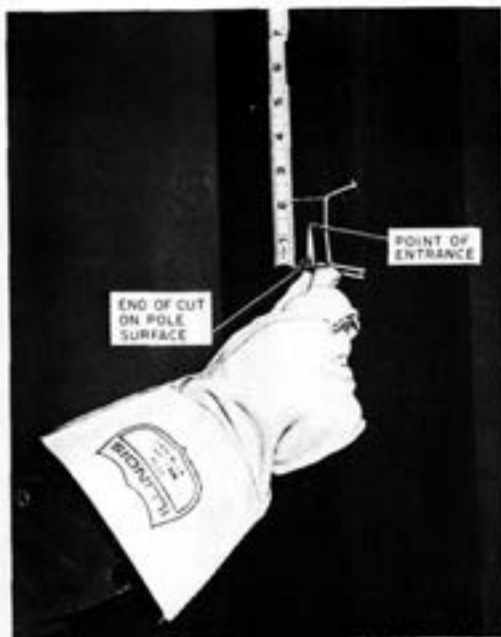

Fig. 16—Measuring Gaff Cut
(4) Making certain the strap loop is held against the pole with pressure from your leg, *gradually* exert full pressure straight down on the stirrup without raising your other foot off the ground, so as to maintain balance if the gaff does not hold.
(5) A gaff, which is correctly shaped and is sharp, will cut into the pole and hold in a distance of 2 inches or less. Measure the cut from point the gaff enters the pole to bottom of cut at surface of pole as indicated in Fig. 16. A gaff that is correctly shaped but dull or burred will cut in and hold but the length of the cut will be more than 2 inches. A convenient tool for measuring the length of a cut is the gaff guard. The clasp portion of the gaff guard is 2 inches long and can readily be used as a measuring device. A gaff, which is very dull or deformed in some way, will cut out of the pole or plow through the wood for a distance greater than 2 inches. **Do not use climbers that cut out or plow through the wood for a distance greater than 2 inches.** If the climber gaff is dull, sharpen with a hone, as described in Part 7, and repeat cutout test. If climbers still do not pass the pole cutout test, they are defective and should be replaced.